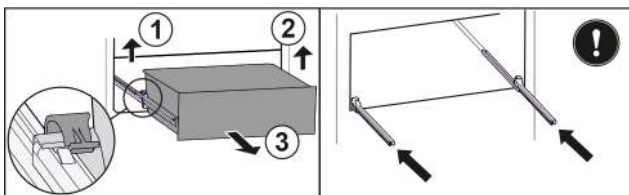

Fig. 104
- Lift left clamp and simultaneously pull drawer forwards on the left. Fig. 104 (1)
- Lift right clamp and simultaneously pull drawer forwards on the right. Fig. 104 (2)
- Remove drawer to the front. Fig. 104 (3)